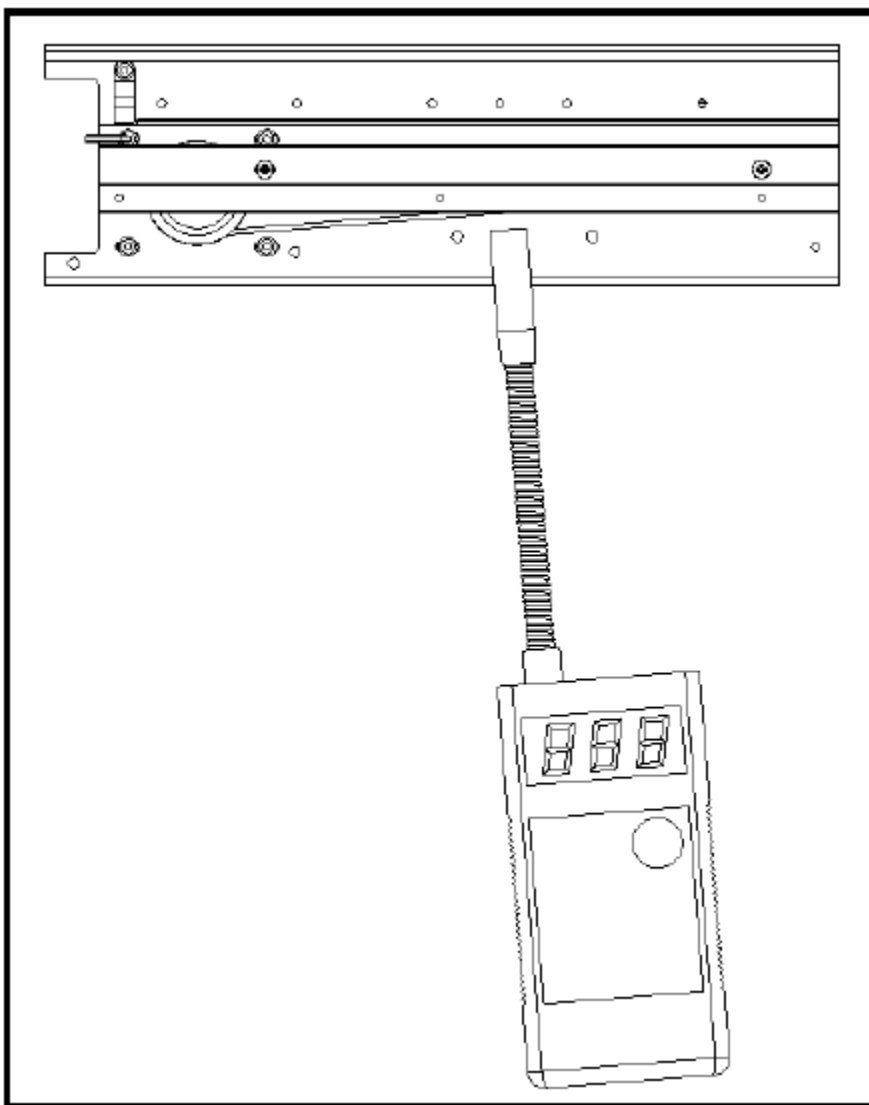

Figure P-5: Position of the Tension Meter
2. Position the Tension Meter (Gates Sonic Tension Meter 507C, Brecoflex SM4, or equivalent) at the position indicated in Figure P-5. The Tension Meter must be 3-6mm away from the belt to obtain a reading.